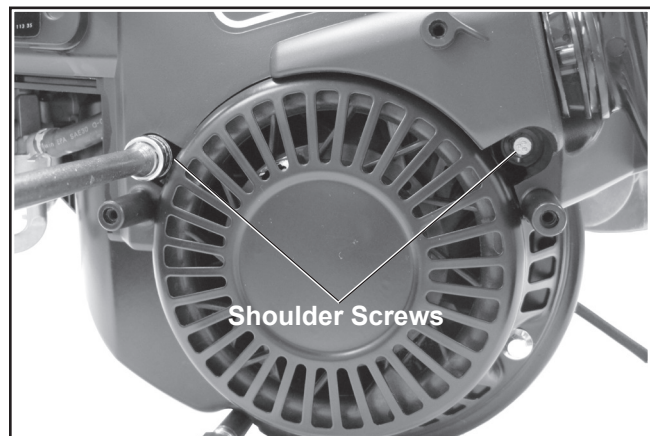

Figure 8. Remove Shoulder Screws.
1. Remove the hex flange shoulder screws retaining the engine cover to the blower housing. See Figure 8.